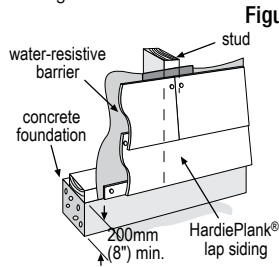

Figure 3
- When installing James Hardie products all clearance details in figs. 3, 4, 5, 6, 7, 8 & 9 must be followed.